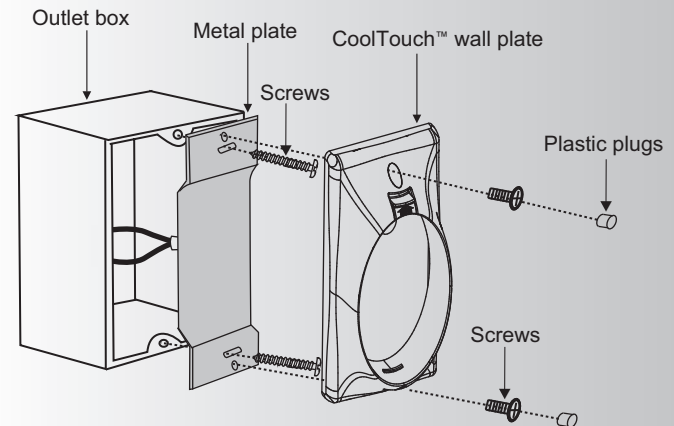

Fig. 29
Step 2. Install the metal plate and CoolTouch™ wall plate to the existing wall outlet box with 4 screws provided. Then place the two plastic plugs into the wall plate. (Fig. 29)